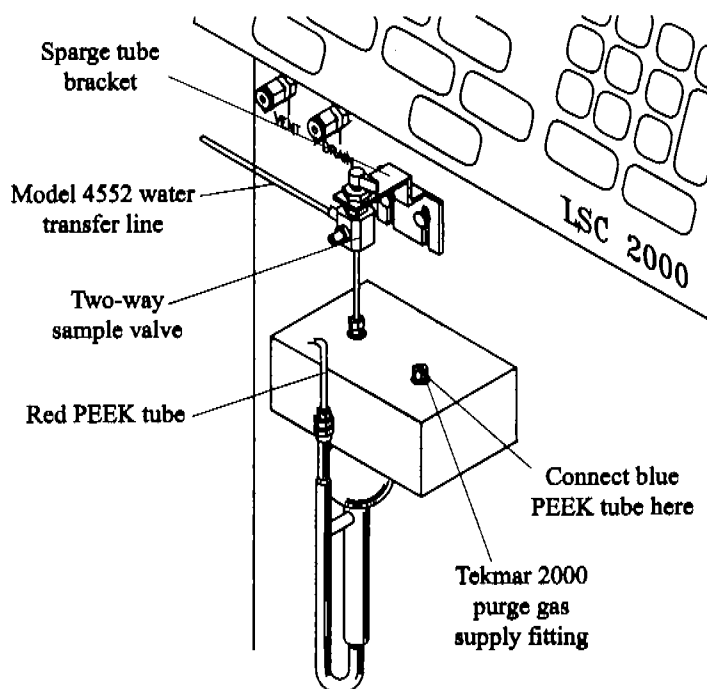

Figure 3.17. Purge gas cutoff valve
3. Connect the blue PEEK tube to the Tekmar 2000's purge gas supply fitting using a $\frac{1}{16}$ " nut and ferrule (Figure 3.17).
The Model 4552 transfers, cleans, and dilutes liquid samples to the sparge tube via a five-foot stainless steel line that attaches to the two-way valve on the sparge tube top (Figure 3.17).